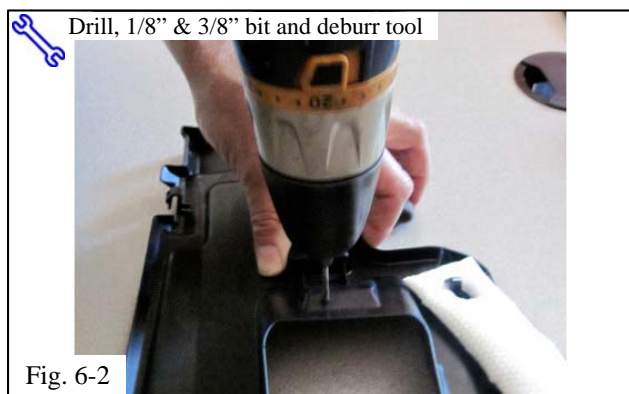

Fig. 6-2
- Use a drill and 1/8" bit to drill a pilot hole at the mark created in Step 6(d) (Fig. 6-2).